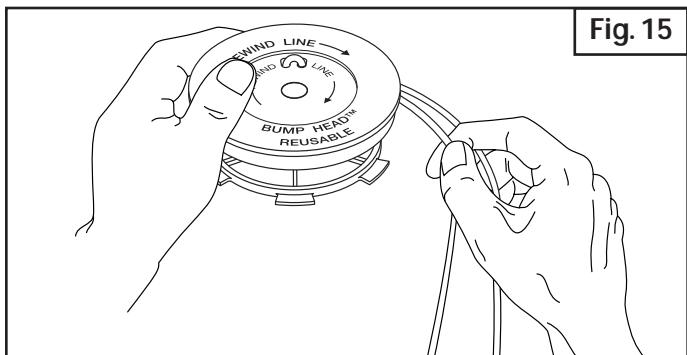

Fig. 15
7. Wind the lines in tight even layers, onto the reel (Fig. 15). Wind the line in the direction indicated on the inner reel. Place your index finger between the two lines to stop the lines from overlapping. Do not overlap the ends of the line. Proceed to step 11.